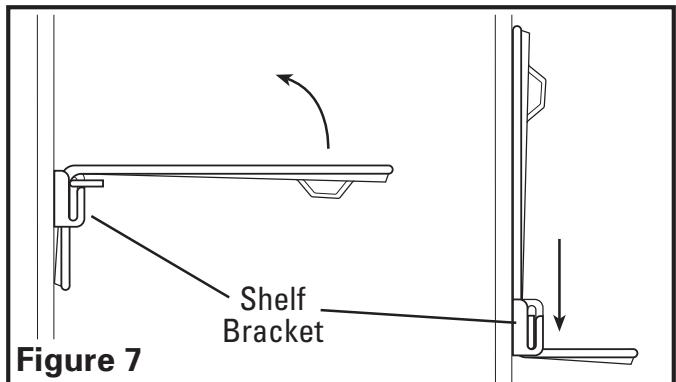

Figure 7
1. If your back splash include the optional shelves, these can be positioned upward when not in use to create additional working space. To move the shelf into the upright position, hold the front of the shelf and lift upward, then slide the shelf down into the channel of the bracket (**Figure 7**). To move the shelf into the lowered position, reverse the directions.